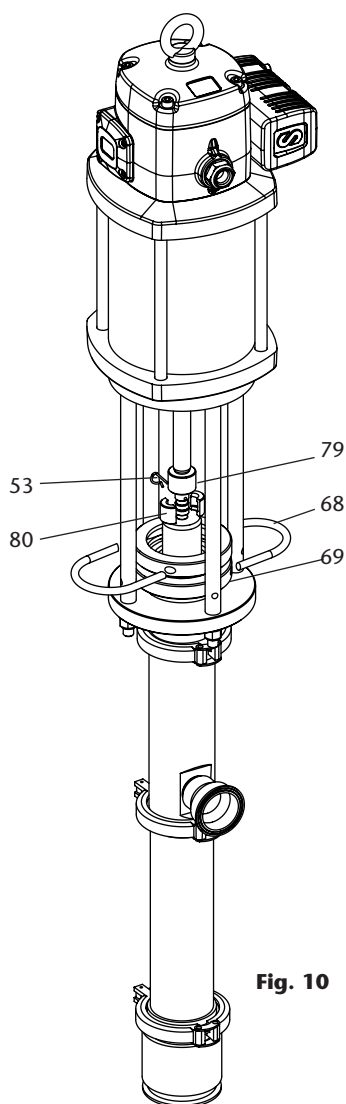

Fig. 10
5. Remove the spring clip which passes through the air motor piston rod (53). Lift the coupling cover (79) and remove the couplings (80). Allow the coupling cover to rest on top of the pump packing rod (1) until it is convenient to remove it (fig. 10).
6. While supporting the pump remove the spring (68) from the locking ring (69).